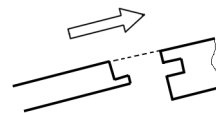

Fig. 26a
- Fit face cover 73 exactly into its guide (fig. 26a).